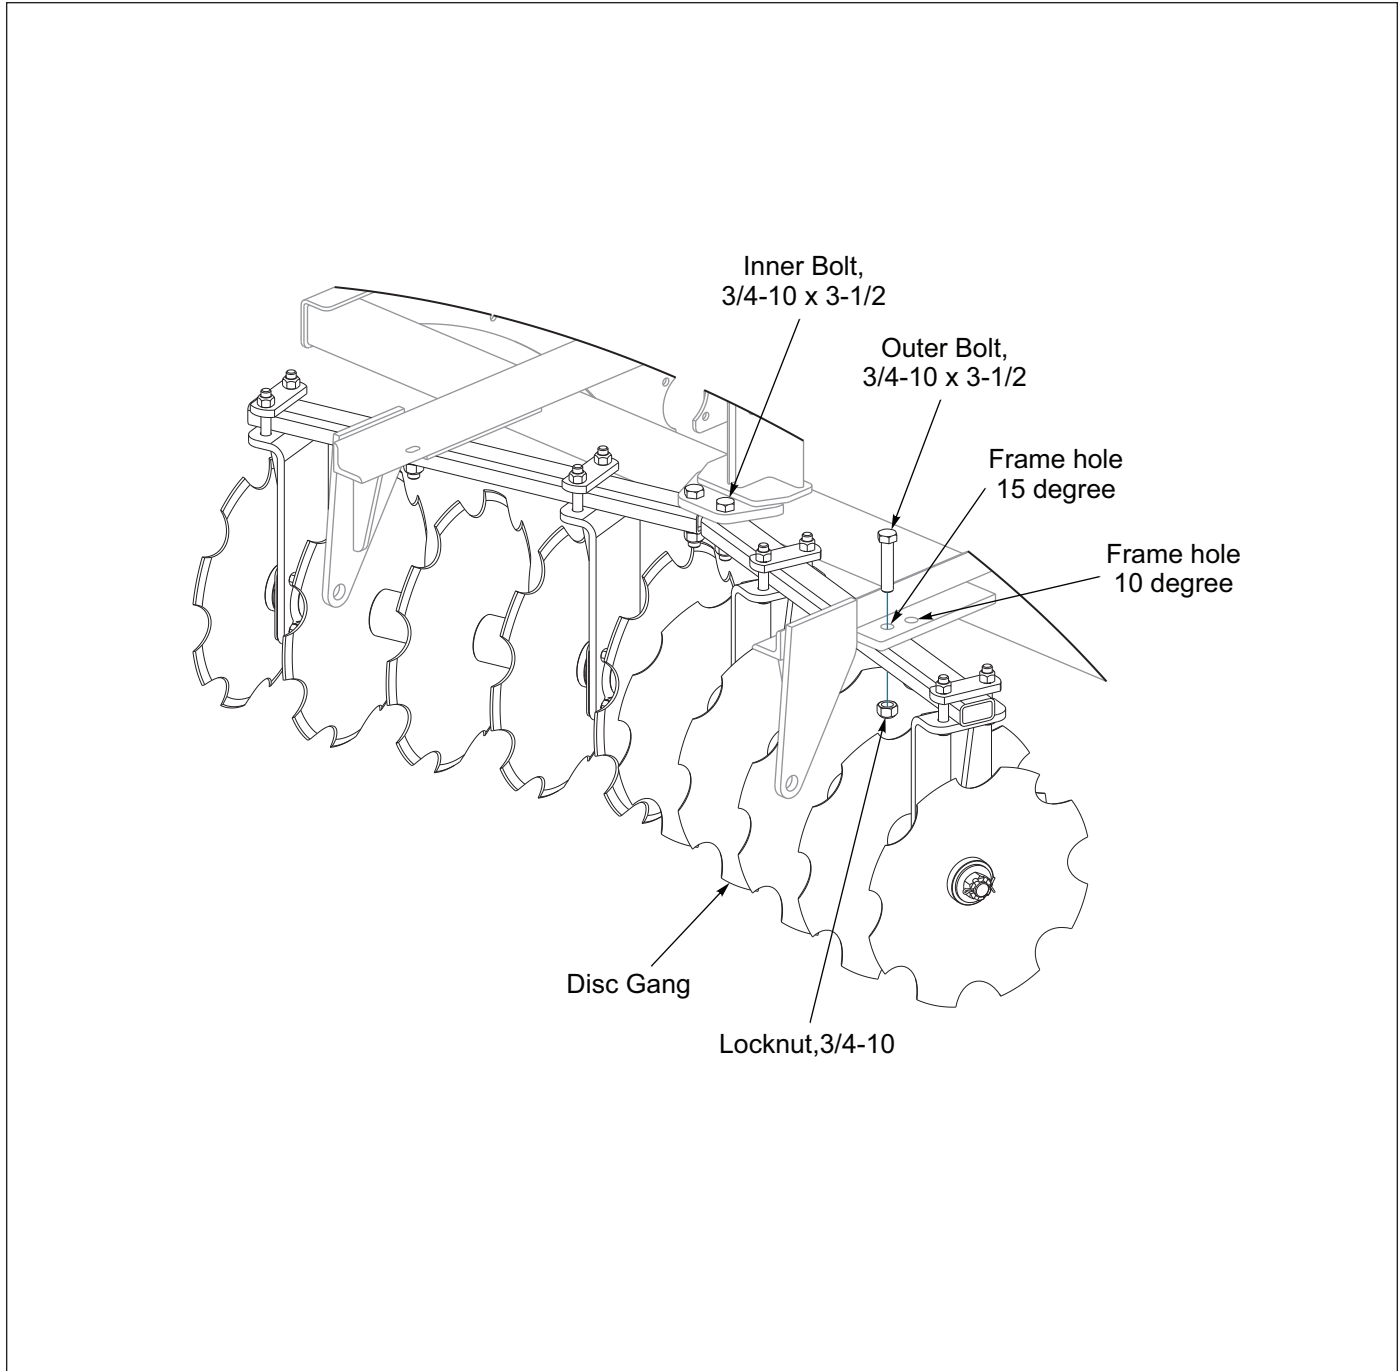

Figure 3-5: Disc Gang Adjustment
1. Loosen the inner 3/4-10 x 3-1/2 Bolt and Locknut. **See Figure 3-5.**